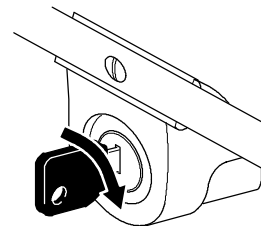

Figure 13
- **Electric Starting (electric start model only)**—Insert the key into the switch. Turn the key to the right and release it when the engine starts (Fig. 13).